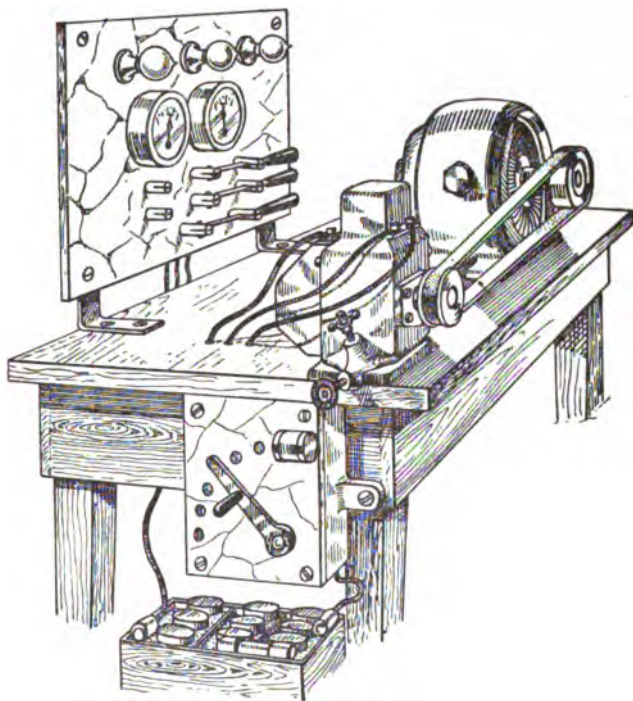
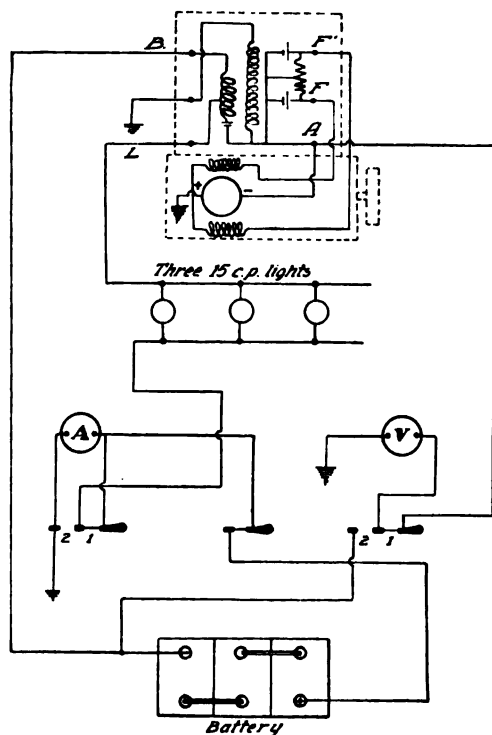

Fig. 288. Diagram of Layout for Testing Gray & Davis Generator
Fig. 289. Wiring Diagram for Gray & Davis Dynamo and Regulator
- (1) Ammeter reading to 400 amperes. (2) One spring scale reading to 20 pounds. (3) One single-pole single-throw switch of 200-ampere capacity. (4) Steel clamp and base for motor. (5) One 6-inch flanged iron pulley. (6) Sufficient No. 1 flexible cable for connections.
*Generator Test Chart.* In order to enable the tester to check the performance of the generator, the test chart, Table III, has been supplied. The method of mounting the  $\frac{1}{2}$ -h.p. motor, switches, instruments, rheostat, and storage battery is shown in Fig. 288, while the wiring diagram showing the method of connecting up the various units is illustrated in Fig. 289. Referring to the test chart, Table III, column 1 gives the types of generators manufactured by Gray & Davis. To determine the type number, it is necessary to note only the first three numbers on the name plate. For instance, 2221541 indicates type 222, machine 1541. This applies to all machines of this make turned out since September, 1915.
amperes. To test the cut-out, connect the voltmeter across the generator brushes or have the voltmeter switch in position 1, Fig. 289. Gradually speed up the generator and observe the voltmeter to determine the closing voltage. The closing voltage is the reading on the voltmeter at the instant that the cut-out points come together. Adjust the cut-out spring to bring the closing voltage within the limits given above. With the lamps turned off and the ammeter switch in position 1, slow the machine down and observe the ammeter reading when the cut-out points open. Adjust the cut-out spring to make this reading fall within the above limits. In case a satisfactory result is